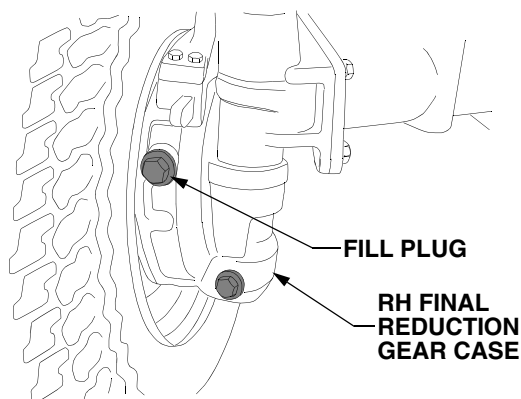

Figure 46
- Locate the fill plugs approximately midway up on the rear of the *right* and *left* gear cases. See Figure 46.